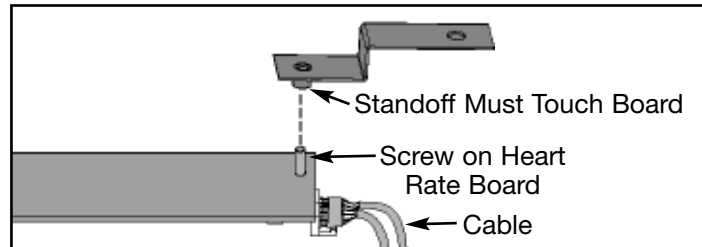

Figure 26
F. Turn the heart rate board over and use a Phillips head screwdriver to remove the screw from the heart rate bracket. See Figure 26.
A. Place the screw removed during step 4F into the heart rate board from the bottom. See Figure 26.
B. Place the short end of the heart rate bracket over the screw on the heart rate board with the standoff touching the board. See Figure 26.
D. Be sure the cable is still firmly connected in the right side of the heart rate board. See Figure 26.